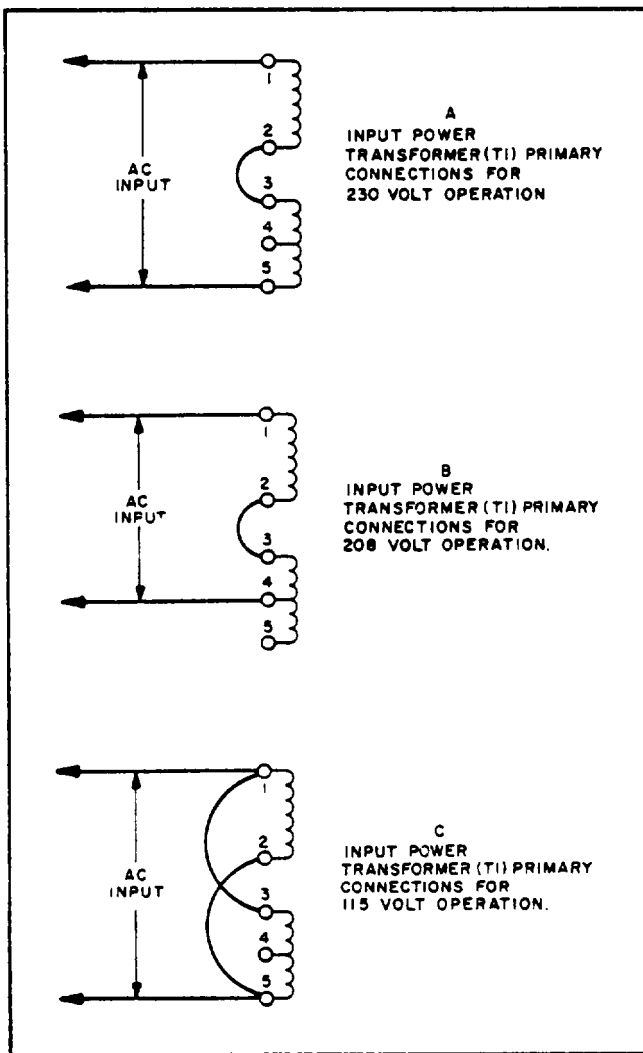

Figure 2-3. Power Transformer Primary Connections for 208Vac and 115Vac Operation . (Model 6259B, 6261B, and 6268B)
d. Unsolder wire connected to terminal 5 of power transformer T1 (see Figure 7-4) and solder it instead to terminal 4 of transformer (see Figure 2-3 B).
- Unsolder jumper connecting terminals 2 and 3 of power transformer T1 (see Figure 7-4) and solder jumpers between terminals 1 and 3, 2 and 5 (see Figure 2-3 C).